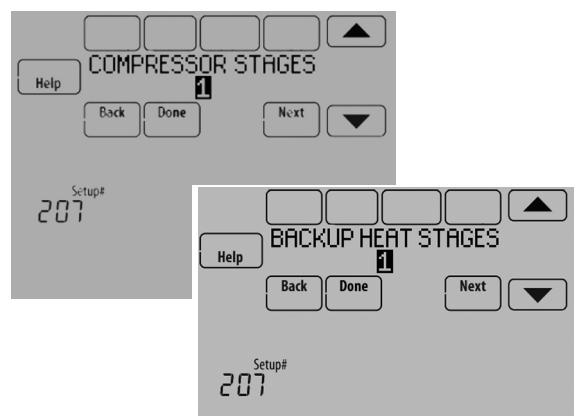

Fig. 112.
5. Select the number of Compressor and Backup Heat Stages. See Fig. 112.